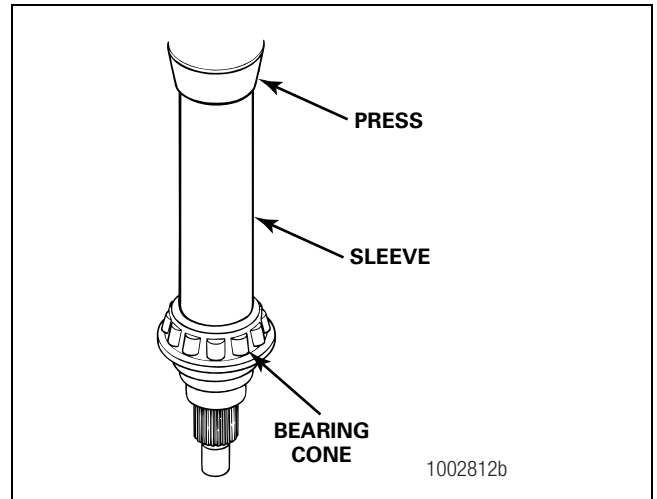

Figure 5.69
- A. If removed, install the bearing cone onto the input shaft. Use a press and sleeve to install the cone onto the input shaft until it bottoms on the shoulder of the shaft. Figure 5.69.